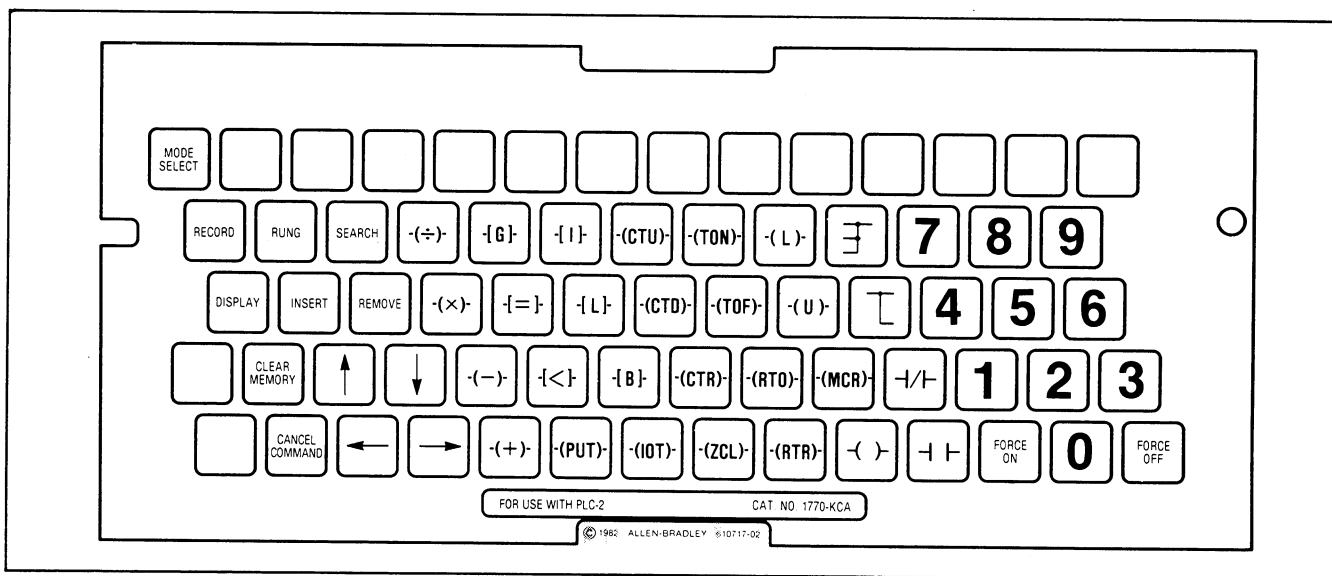

FIGURE 2-6 — PLC-2 Keytop Overlay (Cat. No. 1770-KCA)
4. Insert the PLC-2 Keytop Overlay (Cat. No. 1770-KCA), Figure 2-6, on the Keyboard Module (Cat. No. 1770-FDC).
The Mini-PLC-2 Processor should be programmed using the PLC-2 Keytop Overlay (1770-KCA) shown in Figure 2-6. All keys in this overlay are functional with the 1770-T1, -T2 or -T3 Industrial Terminal. The functions of the keys will be described in detail starting with Section 3 of this manual.